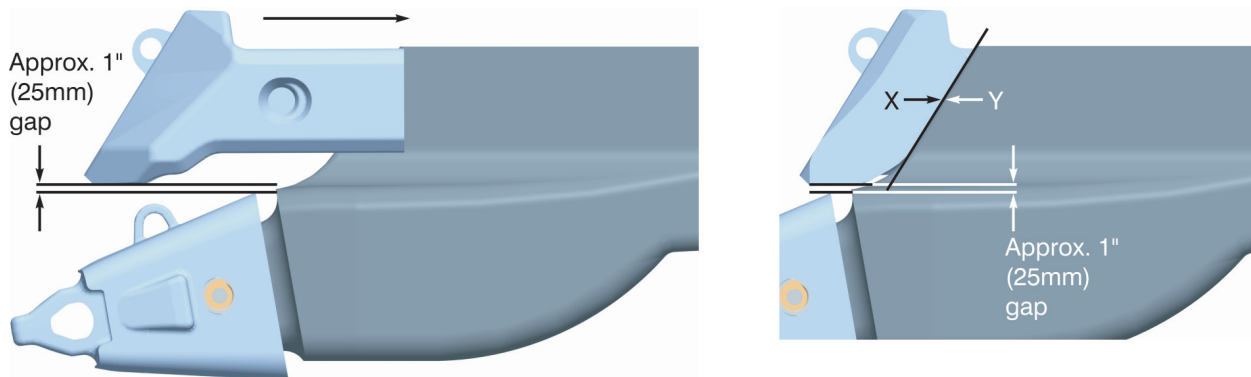

fig. 1-1
Position the wing shroud on cheek plate portion of the cast lip making sure that the **blunt** throat surface of the shroud "X" contacts the **blunt** front surface of the cheek plate "Y". The shroud should be positioned so that there is approximately a 1" (25mm) gap between the bottom of the shroud and the intermediate adapter. (fig. 1-1).
**FOR 201" LIP -** The angle of the blunt front surface of the cheek plate "Y" differs from the 163" & 169" lips. The shroud should still be positioned so that there is approximately a 1" (25mm) gap between the bottom of the shroud and the intermediate adapter (fig. 1-1).